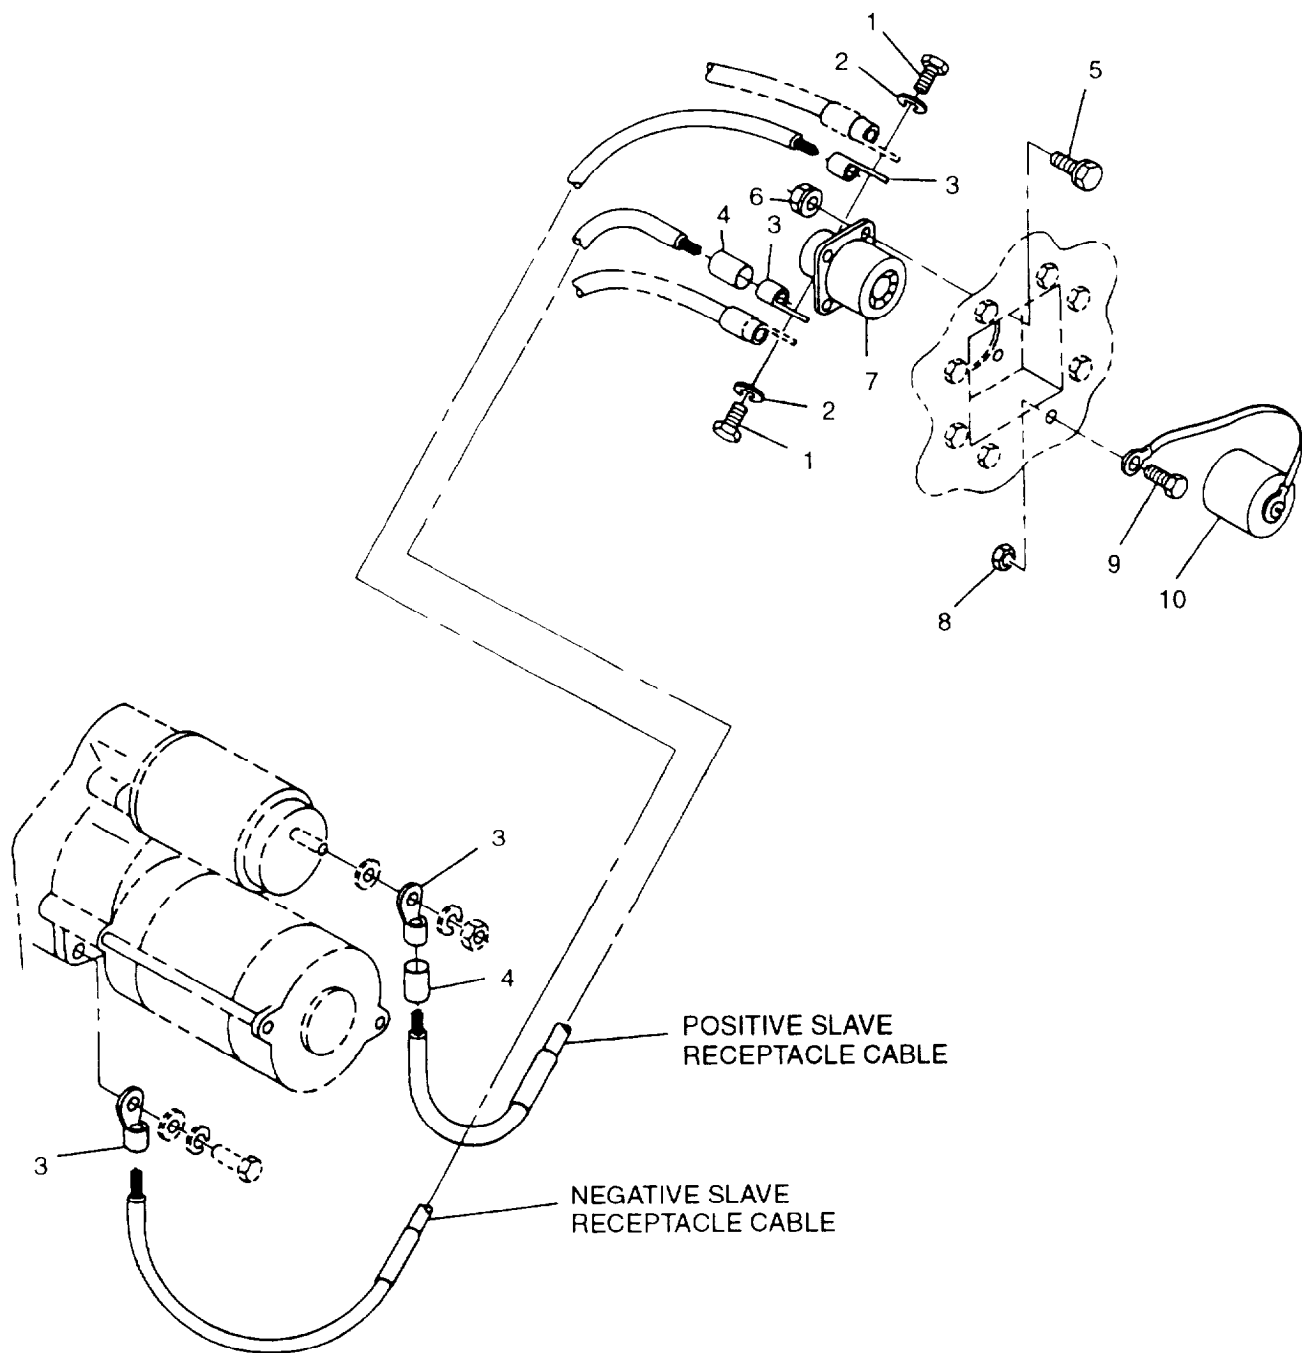

FIGURE 2-4. NATO Slave Receptacle and Cables
- c. Open left side engine access door and tag and disconnect battery and slave receptacle cables from slave receptacle (7, FIGURE 2-4) by removing bolts(1) and lockwashers (2).
- d. Remove bolts (5), nuts (6), and NATO slave receptacle (7) from generator set housing.
- e. Remove nut (8), bolt (9), and cover (10) from generator set.
- a. Insert NATO slave receptacle (7, FIGURE 2-4) into left side lower door sill.
- b. Secure receptacle (7) with bolts (5) and nuts (6).
- c. Connect slave receptacle and battery cables to slave receptacle (7) with bolts (1) and lockwashers (2). Remove tags.
- d. Install cover (10) on generator set with bolt (9) and nut (8).